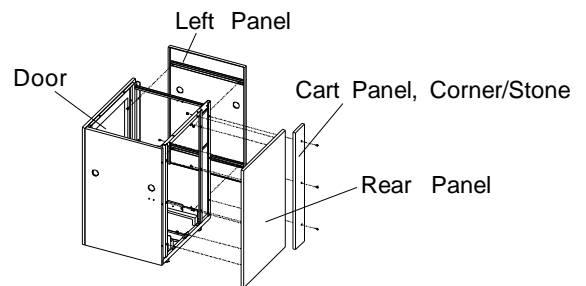

Fig. 2
- Remove Island Left Panel, Rear Panel and Cart Panel, Corner/Stone. See Fig. 2.